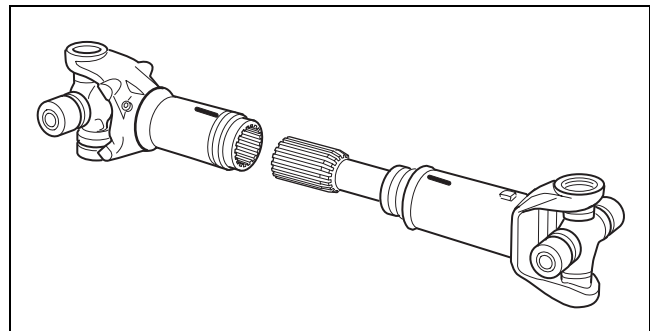

Figure 8.15
2. Pull the slip yoke and slip shaft sections apart. Figure 8.15.